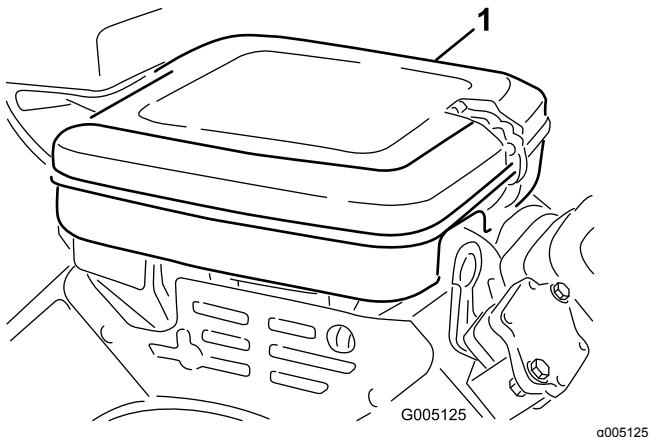

Figure 27
1. Clean the air-cleaner cover (Figure 27).